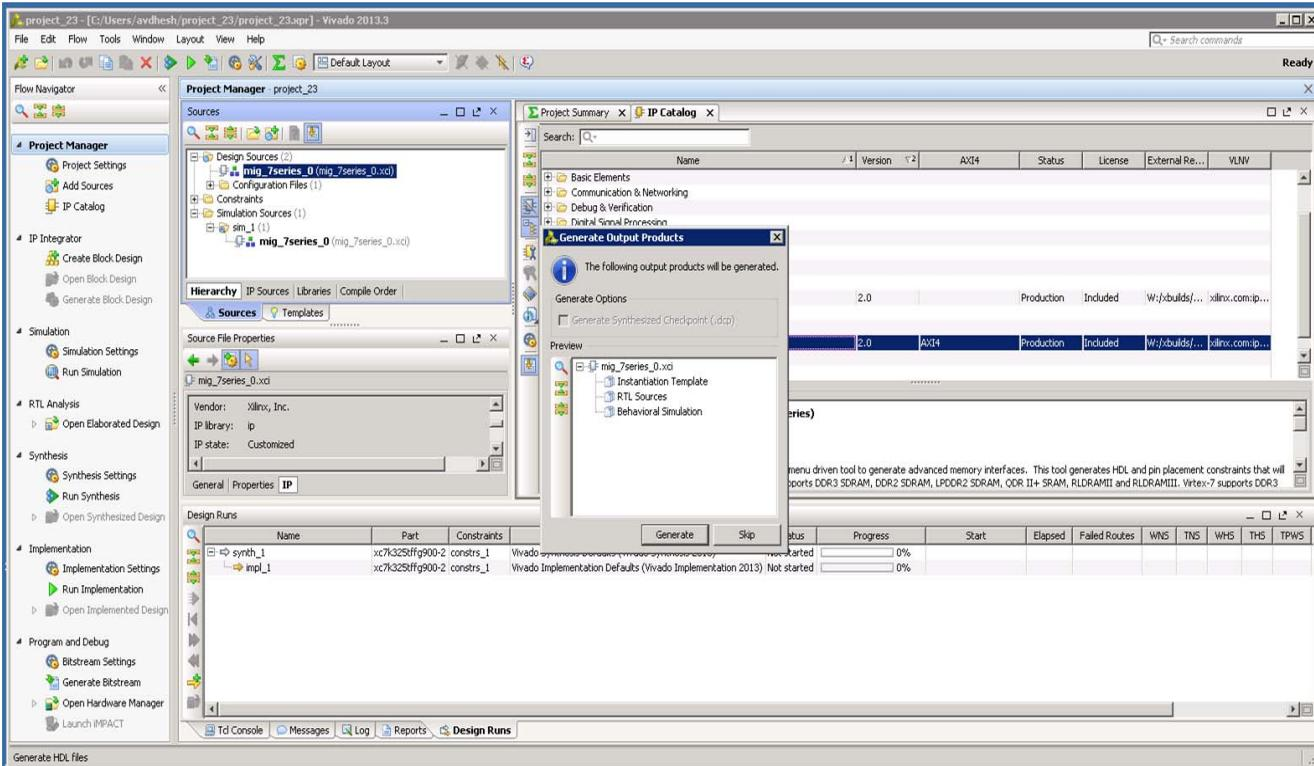

Figure 2-33: Generate Window
- Clicking the **Generate Output Products** option brings up the **Manage Outputs** window (Figure 2-33).